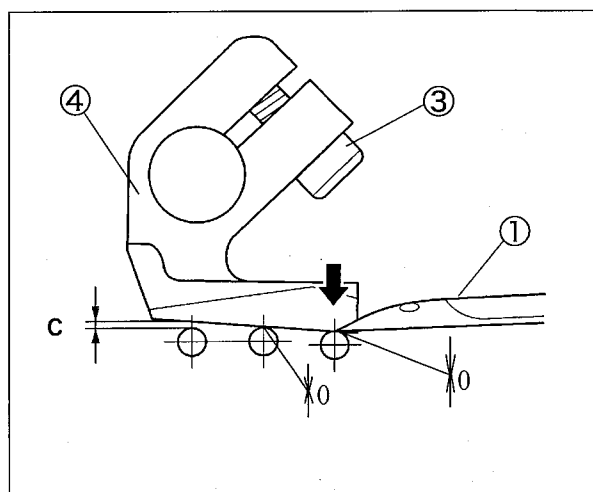

Fig. 6-24
- (1) When the looper ① moves from the right to the left, and the looper ① tip meets the right needle, let the needle guard(rear)④ push the right needle so that the clearance between the right needle and the looper ① is 0.
- (2) When the looper ① tip meets the middle needle, adjust the angle of the needle guard (rear)④ so that the clearance between the middle needle and the looper ① is 0.
- (3) When the looper ① tip meets the left needle ②, even if the left needle ② is pressed, the needle guard(rear)④ holds the left needle ② without touching the looper ① tip. (Fig. 6-24)